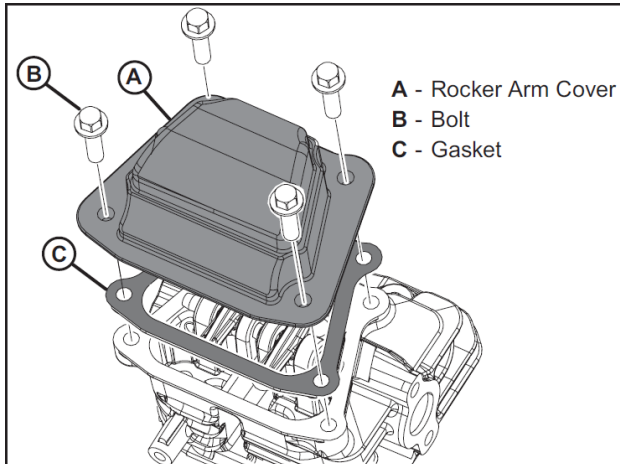

Figure 34 Access for Valve Clearance
5. Remove the rocker arm cover (see Figure 34). If the gasket remains wholly intact in situ and there is no visible evidence of it being damaged or leaking, it can be reused. If not, it will need to be replaced during reassembly.